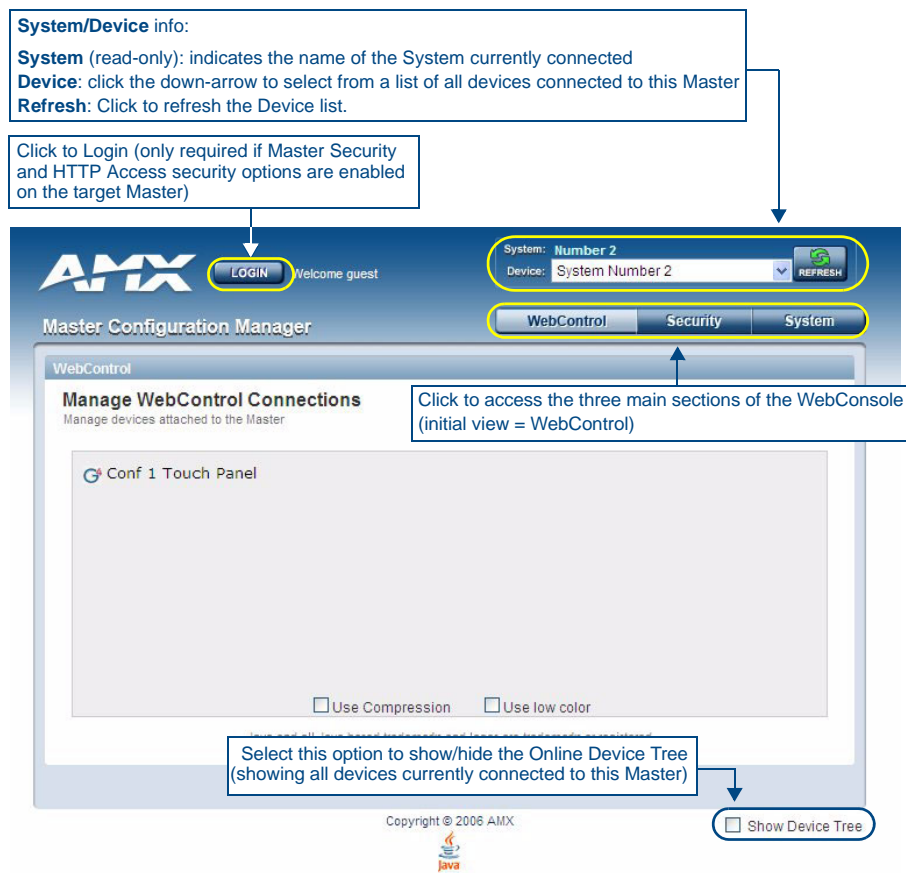

FIG. 53 Master Configuration Manager - WebControl Page (initial view)
2. Press **Enter** to access WebConsole for that DVX-2100HD. The initial view is the *WebControl* page (FIG. 53).
The webconsole consists of a series of web pages that are collectively called the "Master Configuration Manager" (FIG. 53).